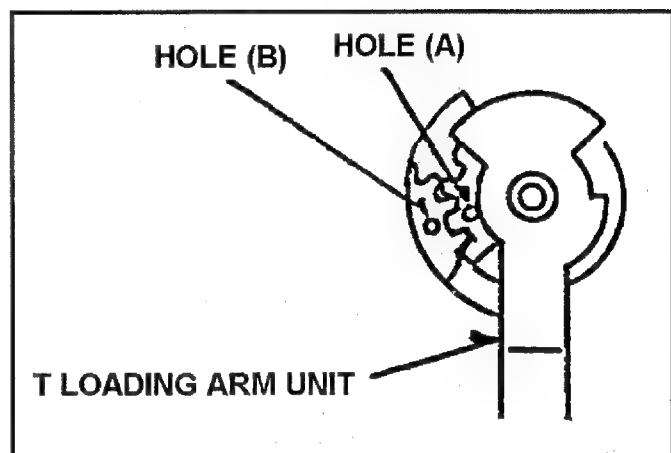

Fig. 10-10-1 Phase Adjustment of T1 Loading Arm Unit
1. When installing the T1 Boat Unit, the **hole (A)** should match **hole (B)** as shown in Figure 10-10-1.
3. Post Height Pre-adjustment (Refer to item 1-4 of section 3) and Linearity Adjustment (Refer to item 1-13 of section 3 [ Tape Path Adjustment Procedure ]) should be performed.